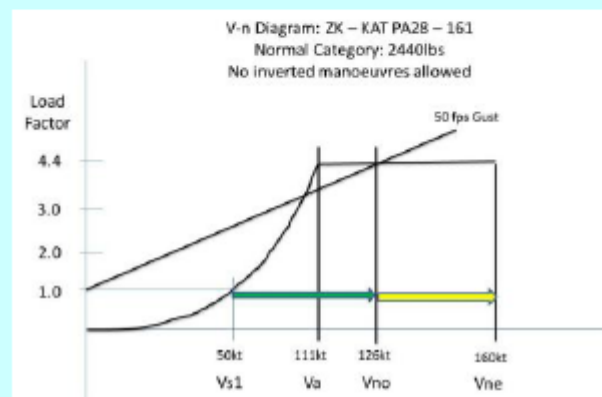

Figure 3 –Velocity versus Normal Acceleration Diagram (V-n) with 50 ft/sec overlay
On one occasion flying to Tauranga in the PA28 DXI – the increasing speed in the descent over the Kaimai Ranges was such that we were 20kts above V_{no} in no time. I told the pilot to slow down, but they were completely unaware of why that was necessary. Remember, flying in the vicinity of terrain, in even the most moderate weather is likely to result in the aircraft encountering some turbulence. And if you are above V_{no} – the Maximum Rough Air Speed - then the aircraft may be subjected to additional airloads (that's the combination of the air's Dynamic Energy (Q) and increased angle of attack) that will be sufficient to exceed the "G" limitations of the aircraft – See Figure 3.
V_{no} is based on the aircraft that is flying straight and level (ie 1g Flight) encountering a vertical gust of about 30kts (50 feet per second) – See Figure 3. This will cause the aircraft to be accelerated vertically upwards, or downward, at a rate that will generate an overall acceleration force that could cause the aircraft to break-up.
the Manoeuvring Speed – Va - and what it relates to. I think this may result from the fact that in the Robin R2120 and R2160 the speeds for Va and Vno are the same, at between 127 - 129kts, depending on which conversion factors have been used in the AFM and where on the placards you look. This is purely coincidental, because Va is always less than Vno and is defined completely independently – see Fig 3. Anyway – the lower figure of 127kts should be used for safety reasons.
Ultimate Load Factor – (1.5x Limit Load Factor) - which is the maximum Load Factor that can be achieved before the aircraft is overstressed and will in all likelihood break-up – See Figure 3. But, so long as you don’t exceed Ultimate Load Factor, in theory it should stay in one piece, although it will suffer from deformation, such as rippled wing panels, bent engine bearers, deformed horizontal stabilisers etc !